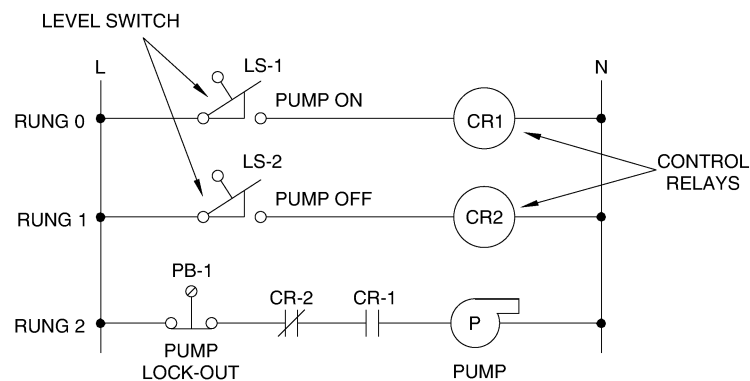
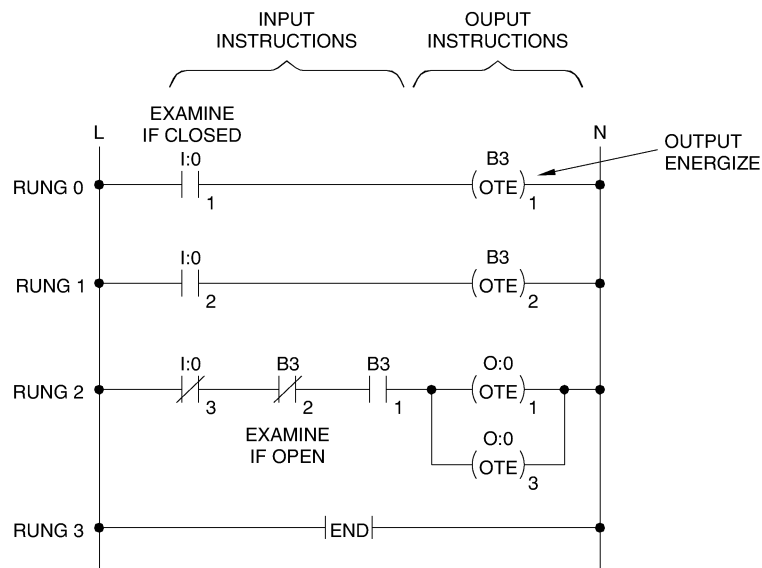

Figure 2-1. Hardwired ladder diagram.
Figure 2-2. Equivalent PLC ladder program.
Figure 2-1 shows a hardwired ladder diagram used to control the turning on and turning off of a pump motor. The horizontal lines similar to the steps of a ladder are called rungs. The two vertical lines at the rung extremities are called power rails. The left side rail is the line (L) power rail; it is connected to the hot side of the power supply. The right side rail is the neutral (N) power rail; it is connected to the common side of the power supply.
Figure 2-2 shows a PLC ladder program that accomplishes the same control function as the ladder diagram of Figure 2-1. A PLC ladder program is a planned set of instructions resembling a hardwired ladder diagram. It consists of a line (L) power rail and a neutral (N) power rail between which one or more rungs are inserted.
Each individual rung contains one or more input instructions on its left-hand (L power rail) side, and a single output instruction or several output instructions placed in parallel on its right-hand (N power rail) side. In Figure 2-2, for example, the instructions Examine If Closed (XIC) and Examine If Open (XIO) are input instructions analogous to relay contacts. On the other hand, the instruction Output Energize (OTE) is an output instruction analogous to a relay coil.